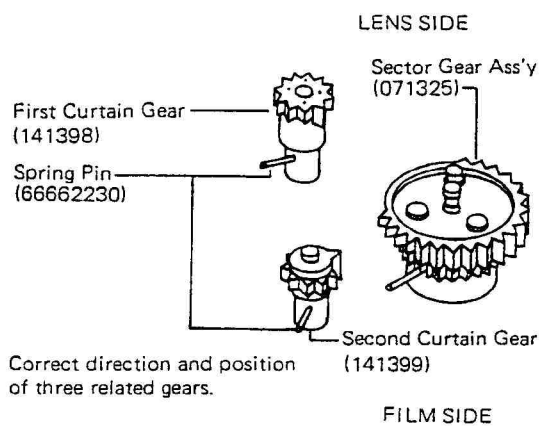

Fig. 24
- b) For a preparation of the following procedure, insert the Spring Pin (66662230) to the Second Curtain Gear (141399) about 1/3 deep of its length. (fig. 24)
Pay attention to the direction and position of a large tooth on a Second Curtain Gear (fig. 24)